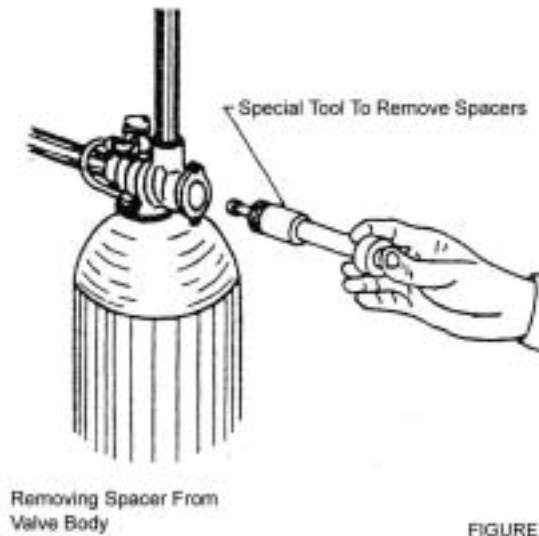

FIGURE 3
8. Insert the pin end of the spacer tool into the valve body with the pins retracted (button pulled back). Push the tool tight against the spacer and push the button in, (see Fig. 3). When the button is pushed in, the pins are pushed out to engage the $\frac{1}{4}$ dia. Holes in the spacer. Remove the tool from the valve body. The spacer will be on the end. Pull the center button back, the pins will be retracted and the spacer can be removed from the spacer tool.